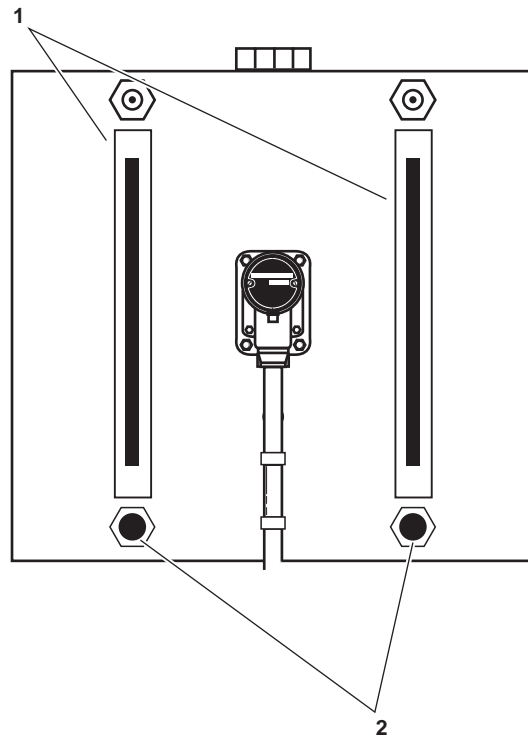

Figure 1. Hydraulic Reservoir
1. At the steering hydraulic oil reservoir, located in the main deck fan room, check the oil level in the sight glasses (figure 1, item 1) by pushing in and holding the knobs (figure 1, item 2) at the bottom of the sight glasses until fluid levels out.